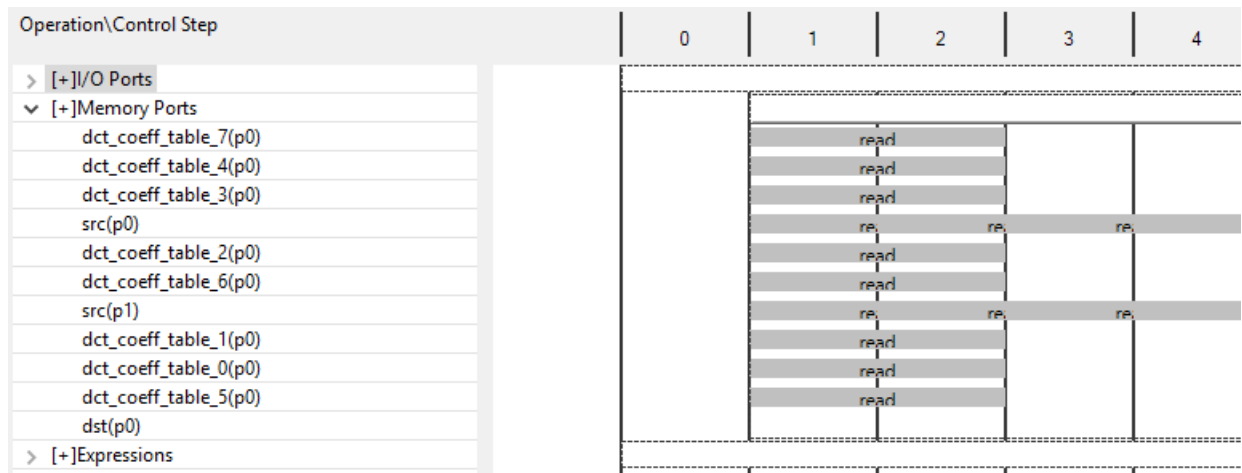

Figure 6-23: Resource Sharing of Memory Ports in DCT_1d
15. Expand the Memory Ports, as shown in Figure 6-23.
The rows list the resources in the design. In Figure 6-23, the memory resources are expanded.
Figure 6-23 shows the memory accesses on block RAM `src` are being used to the maximum in every clock cycle. (At most, a block RAM can be dual-port and both ports are being used). This is a good indication the design may be bandwidth-limited by the memory resource. To determine if this really is the case, you can examine further.